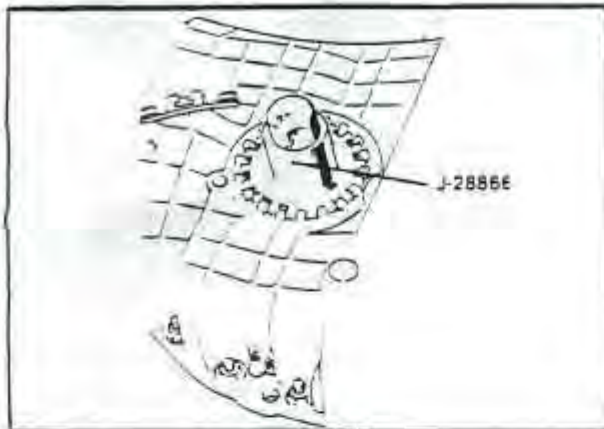

Fig. 78 SIDE GEAR TOOL
8. Remove the lock plates securing the differential adjusting nuts to the final drive half-cases. Remove the adjusting nuts using Tool J28866. Fig. 78
- e. Tighten the differential carrier adjusting nut on the opposite side of the ring gear until all play is removed from the carrier bearings. Use Tool J28866 to turn the adjusting nut. Fig. 78.